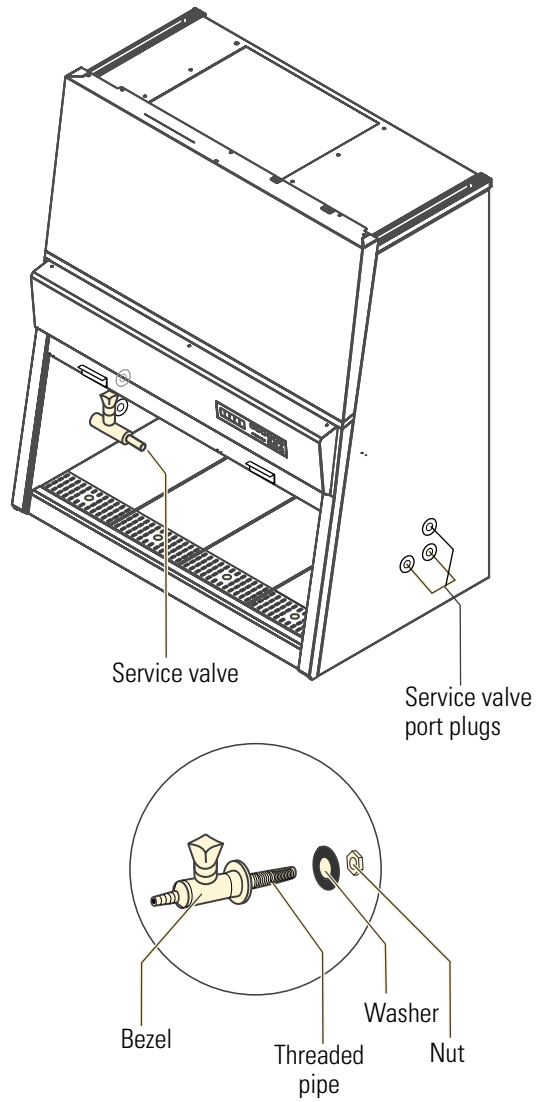

Figure 2-5. Valve Assembly and Installation
4. Referring to Figure 2-5 on the following page, slide the gasket and the bezel onto the threaded pipe of the service valve. Apply a thin bead of silicon to the inner flange of the service valve.